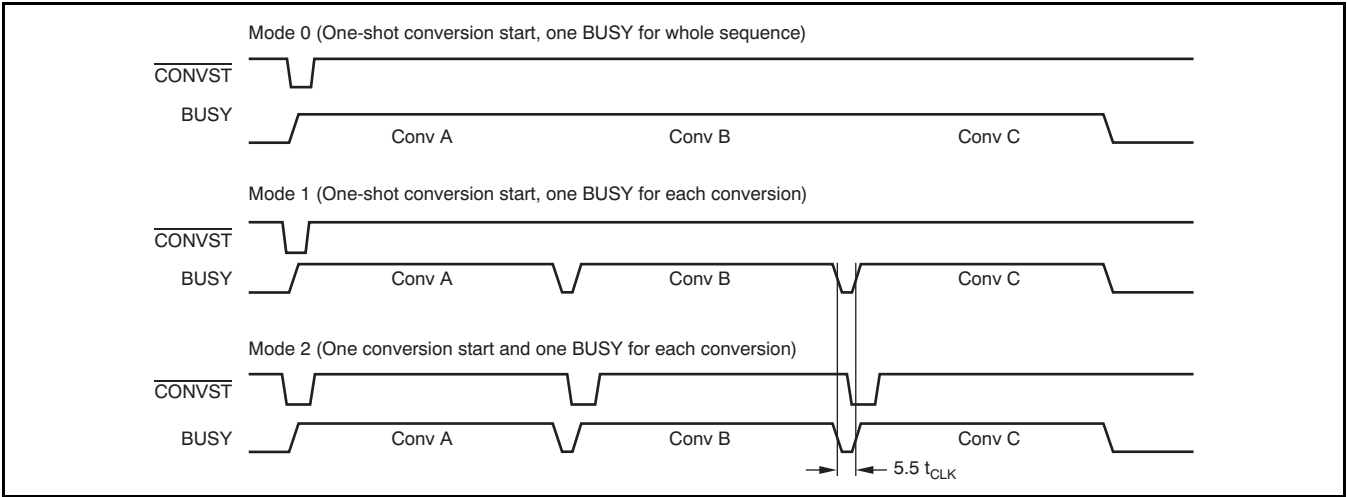

Figure 33. Sequencer Modes (Example: SL = '11')
Detailed timing diagrams of the different sequencer modes are shown in Figure 33.
- Updated Figure 33 20